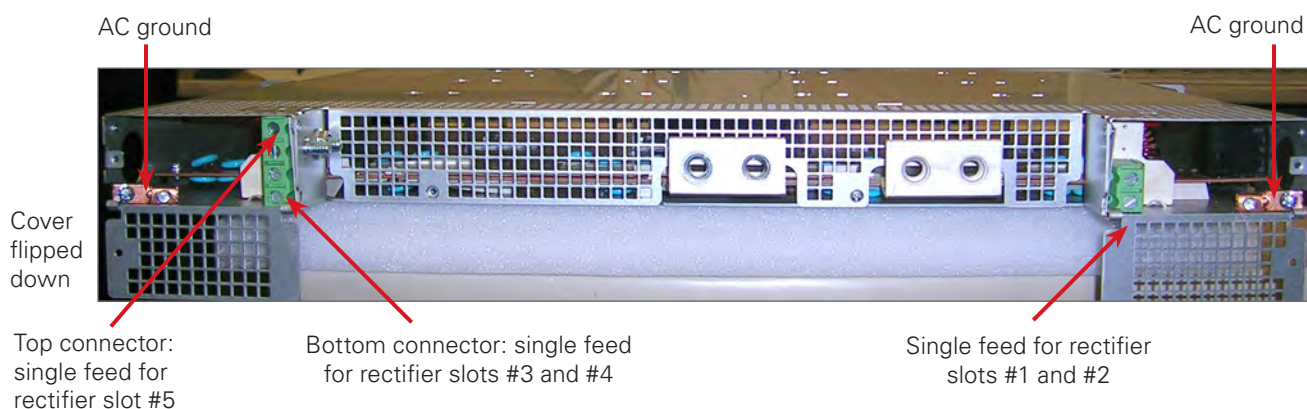

Figure 12: AC input and ground for 23-inch shelf
4. Secure the wires to the AC input and AC ground terminals (torque to 1.69 Nm or 15 in-lb) and AC ground terminal (torque to 3.95 Nm or 35 in-lb). Refer to Figure 12 and customer connection drawing 0300057-08 and 0300216-08 at the end of this document.